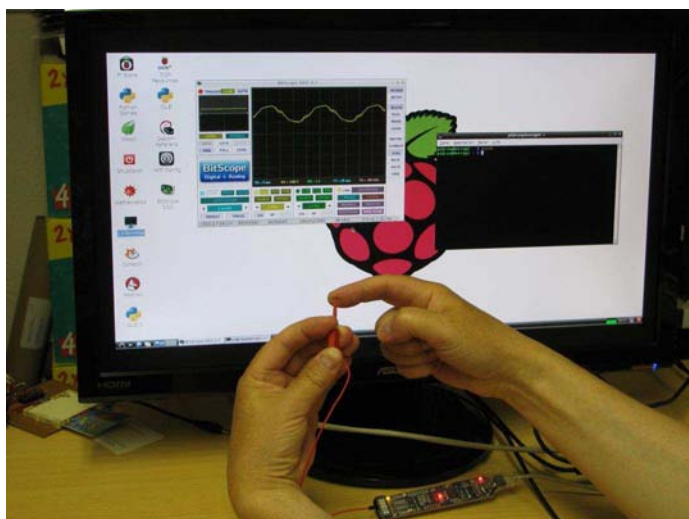

Figure 4: Touching the test lead with your fingertip
displayed. 5msec/Division means that each square of the grid on the main screen (1) on the x-axis represents five milliseconds. Next look at the channel controls for channel A (7) and select 1V/Div. This means that each square of the grid on the main screen (1) on the y-axis represents one volt. Now press down the top of the grabber clip, such that you can see the tiny metal grabber coming out of the plastic on the opposite side and touch it with your finger. Do not be afraid nothing will happen, except if you let loose the top, then it will bite you. If you look to the main screen you will see a more or less perfect sine wave like the one in Fig. 4: